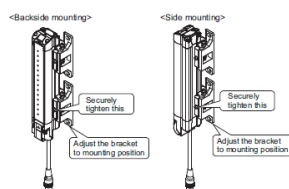

Fig. 3
4. Adjust the Standard Adjustable Bracket to the mounting position of the wall surface. Securely tighten the Screw (2) to fix the Standard Adjustable Bracket to the housing of the F3SG-R. The recommended torque to tighten the Screw (2) is 2.0 N·m. (Fig. 3)